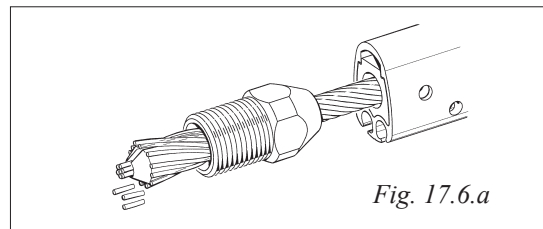

Fig. 17.6.a
6. Cut all wire strands protruding outside the wedge at the bend by approx. 5 mm (3/16"). See fig. 17.6.a.